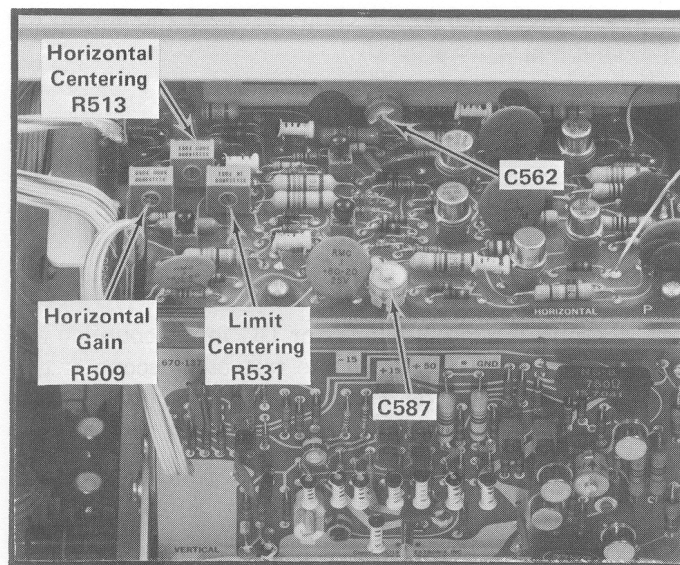

Fig. 5-7. Locations of Horizontal System Adjustments.
f. ADJUST—Horizontal Gain adjustment R509 (see Fig. 5-7) for exactly eight divisions of deflection between the second and eighth traces.
c. ADJUST—Horizontal Centering adjustment R513 (see Fig. 5-7) to position the trace to the vertical center line.
h. ADJUST—Limit Centering adjustment R531 (see Fig. 5-7) to match the DC levels of both waveforms.
j. ADJUST—C562 and C587 (see Fig. 5-7) for one marker each two divisions over the center eight divisions (use low-capacitance screwdriver).